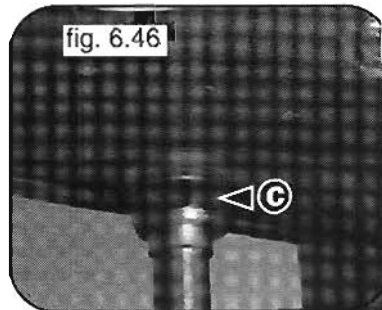

fig. 6.46
- 6 Release the top nut "C" using a 30 mm open ended spanner ( see fig. 6.46 );